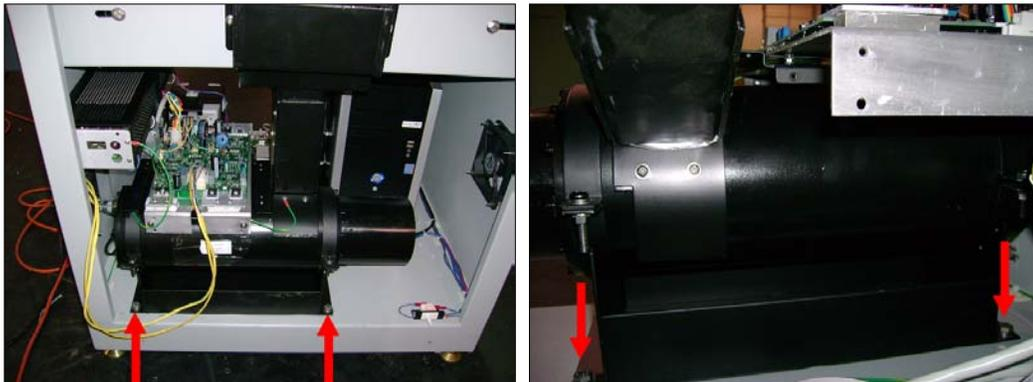

Figure 193: Loosen Generator Bolts
1. Loosen the four bolts that secure the generator to the machine (Figure 193).